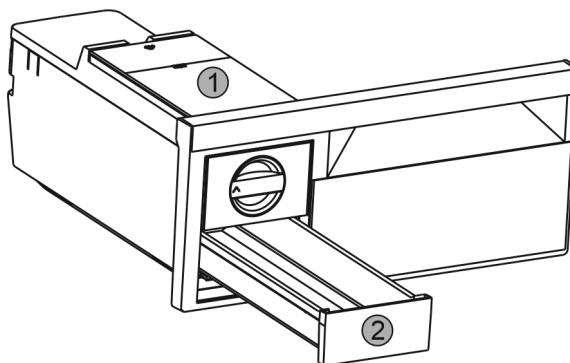

Fig. 38
- Take out the water tank Fig. 38 (1) and ice cube drawer Fig. 38 (2).